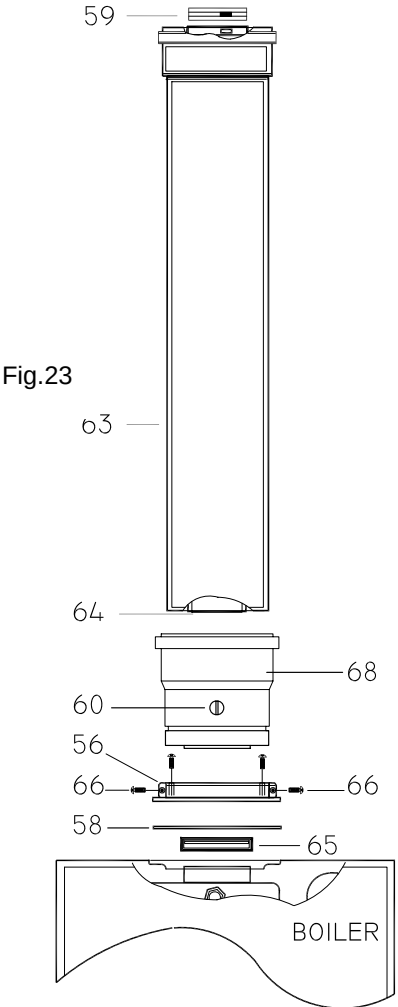

**Fig.23**
- Position the flue sample point starter (must be fitted) and fix the securing screw on the flue adaptor appliance (Fig. 23) item 66, and ensure that the gasket is correctly fitted.
Starting at the appliance end, assemble the extension duct sections, making each inner and outer (flue) joint by inserting the spigot end into the socket end of the next tube, making sure the seal rings are correctly located (Fig. 23). Make sure that the entire flue is adequately supported. Use at least one bracket for each extension used.